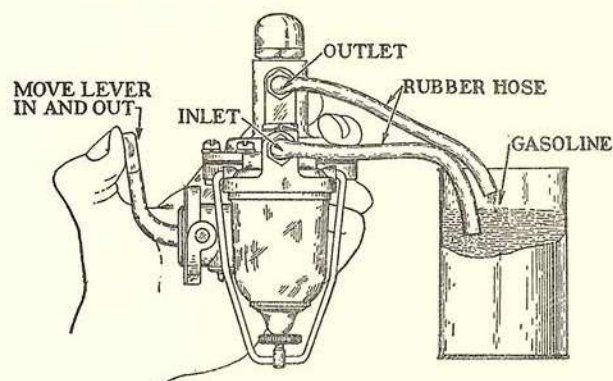

Fig. 2
1. Attach two pieces of rubber hose to the inlet and outlet openings of pump, and while holding as shown in Fig. 2, move pump lever (B) in and out. Gasoline should spurt out of the hose attached to outlet opening in approximately 15 strokes of lever. If no gas spurts out, proceed as follows: